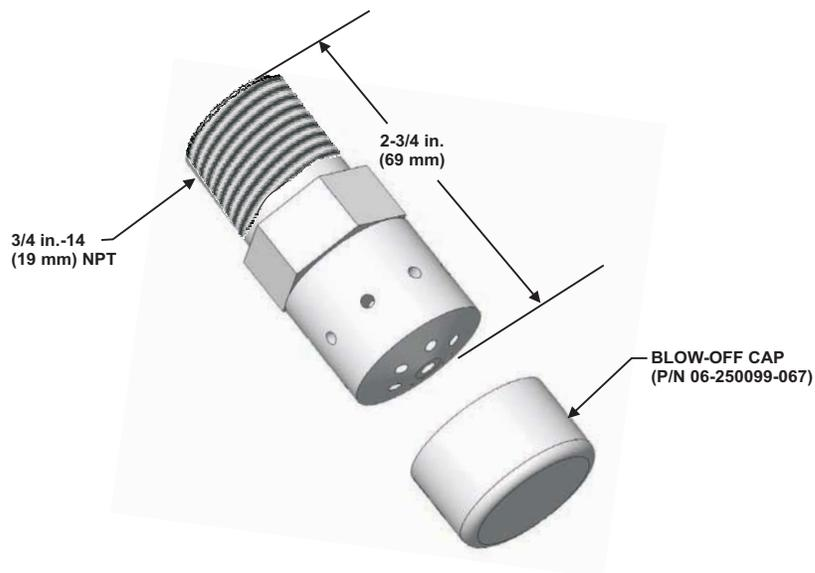

Figure 2-8. Total-Flooding Nozzle, P/N B100005
The Total-Flooding (TF) Nozzle, shown in Figure 2-8, is designed to discharge dry chemical throughout an enclosed area. The TF Nozzle is used for non-spray type applications as well as enclosed and open-face applications.